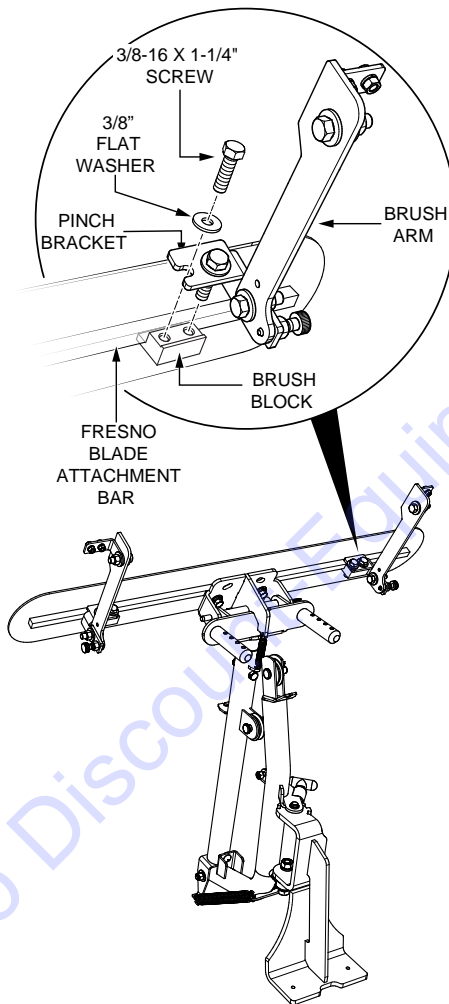

Figure 23. Pinch Bracket Attachment
1. Using a 9/16" wrench, slightly loosen the 3/8-16 x 1-1/4" screws (Figure 23) that are holding the pinch bracket, brush block, and brush arm together.